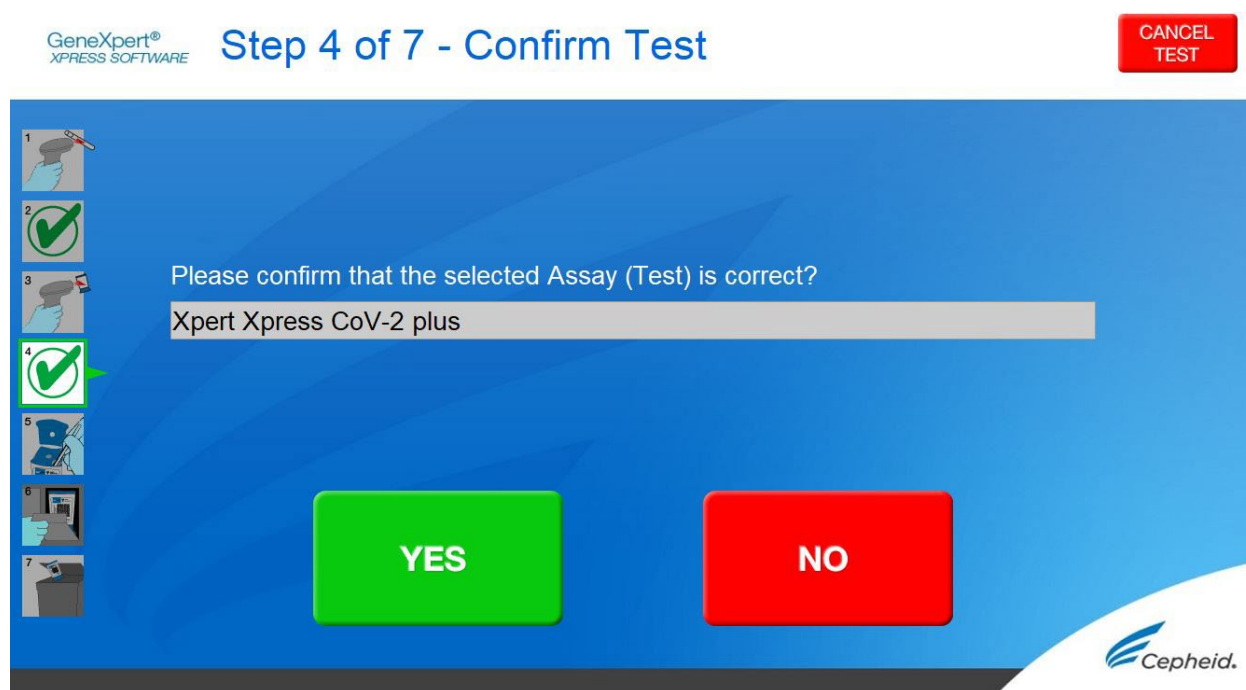

Figure 9. Confirm Test Screen - Select Assay
3. Make the appropriate selection from the Select Assay menu, as shown in Figure 9.